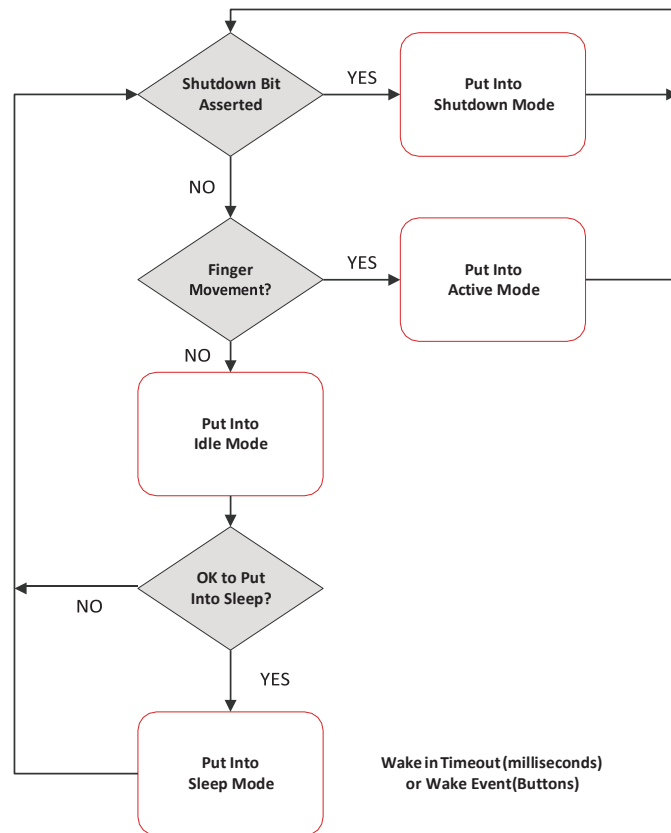
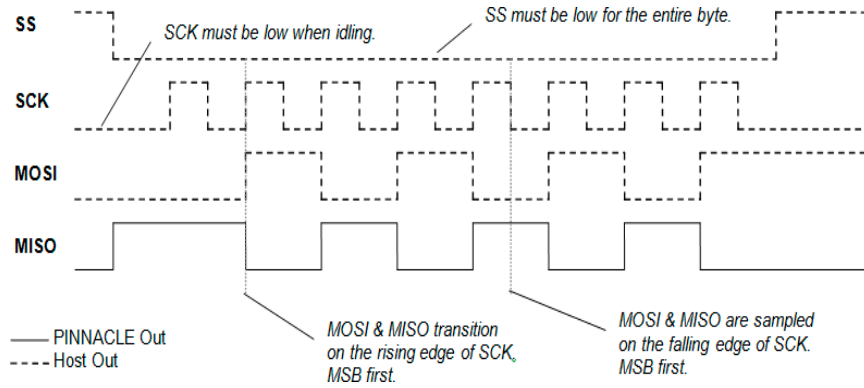

Figure 2. Pinnacle Power Mode State Machine
Figure 3. SPI Signals
Timing for the SPI data lines is shown below (see Figure 2, Figure 3 below, and Table 15 on page 21). The data exchange is started when the master pulls the Slave Select (SS) line low. Due to the full duplex nature of the SPI bus, Pinnacle always returns data at the same time that it is receiving data. The returned byte may be data from the previous command or it may be a filler byte. For both Master and Slave, data is changed on the rising edge of the clock and latched on the falling edge of the clock.